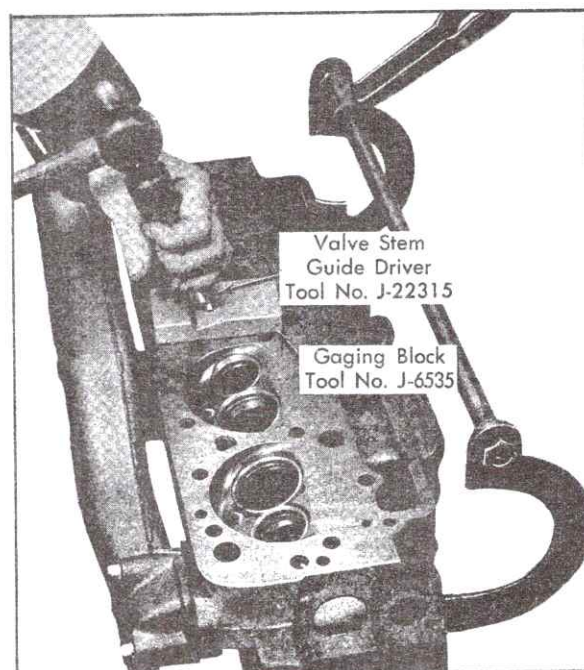

Fig. 6-131 Valve Guide Installation
1. Position Valve Stem Guide Driver, J-22315 through Gaging Block, J-6535, Fig. 6-131.